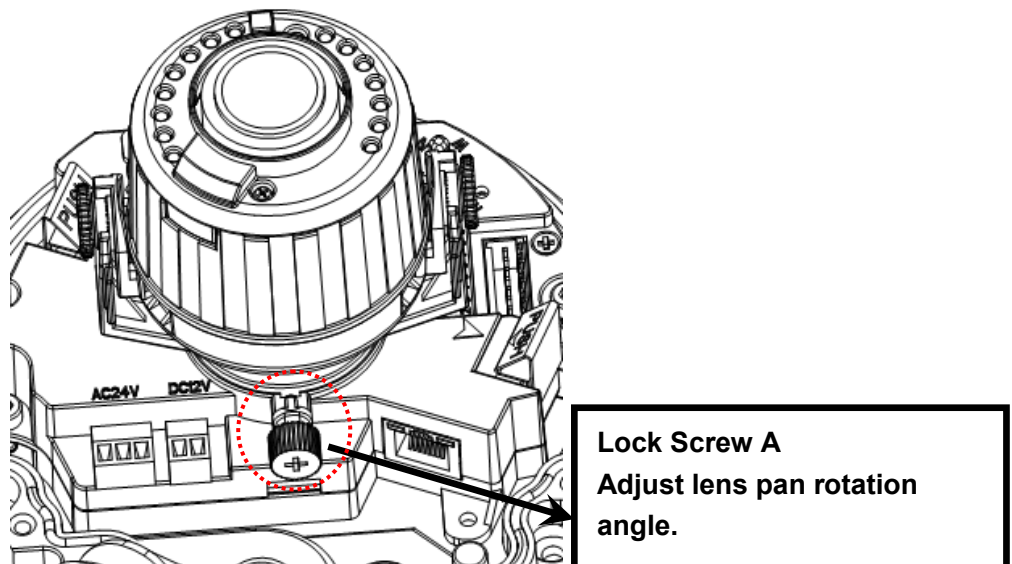
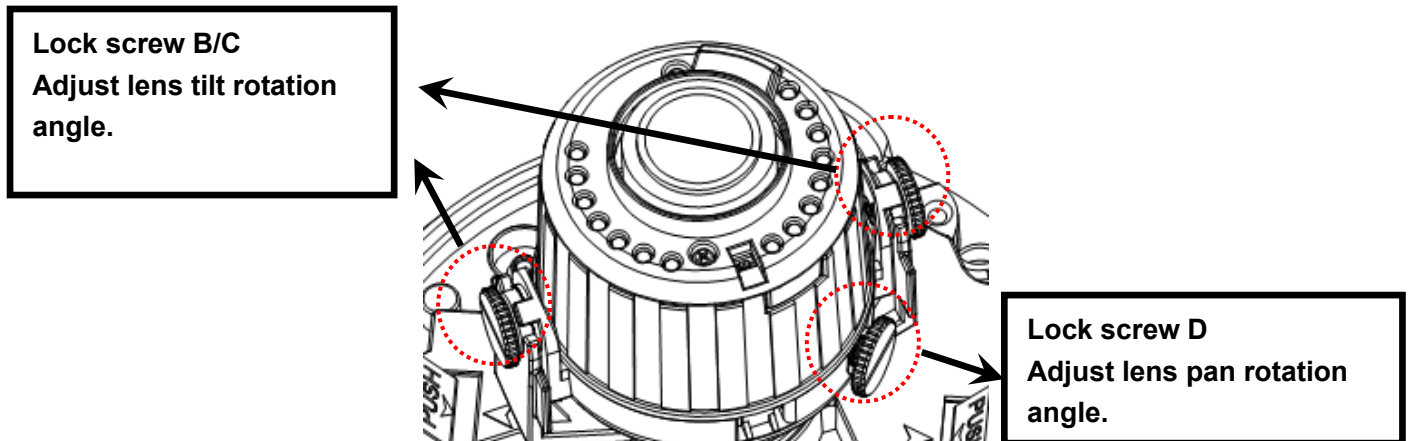

Figure 3-6 Installation 4
Figure 3-7 Installation 5
b) Lens pan rotation angle setup. Please refer to Figure 3-6 to unfasten the lock screw A and adjust the pan monitor angle to the proper position. Then fix the lock screw A. The pan angle ranges from  $0^{\circ}\sim+350^{\circ}$ .
d). Image pan rotation angle setup. Please refer to Figure 3-7 to turn lock screw D to adjust the video pan angle. Then fix the lock screw B and C. The video pan angle ranges from 0°~+350°.
**Please note Figure 3-6 and Figure 3-7 is based on the IR motorized zoom camera. For the IR manual zoom camera and non-IR series product, the lock screw position and the lens angle adjustment are the same.**